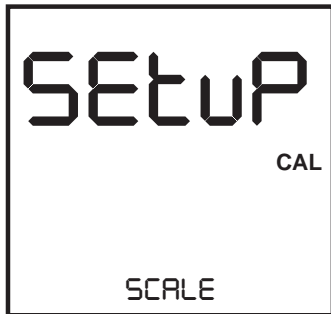

Figure No. 11
1. With the power off, remove the two (2) screws from the left end cap (as viewed from the front of the MV2) and remove the end cap.
2. Locate the calibration switch (access is through a hole in the side panel). See Figure No. 11.